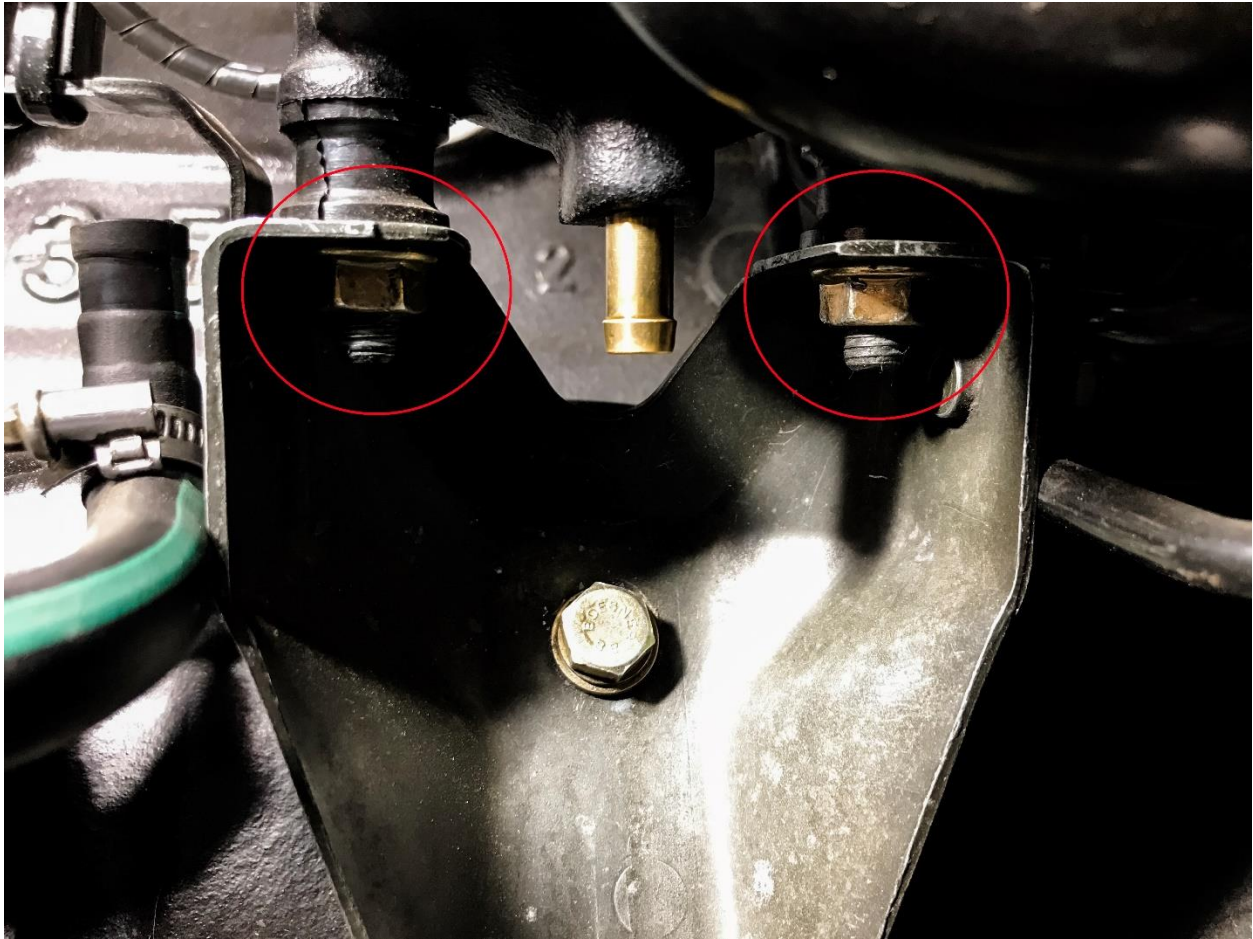

Figure 12
12. Remove the two nuts that attach the rubber mounts on the bottom of the cyclone separator to the plenum support brace using your 13mm wrench. See Figure 12.